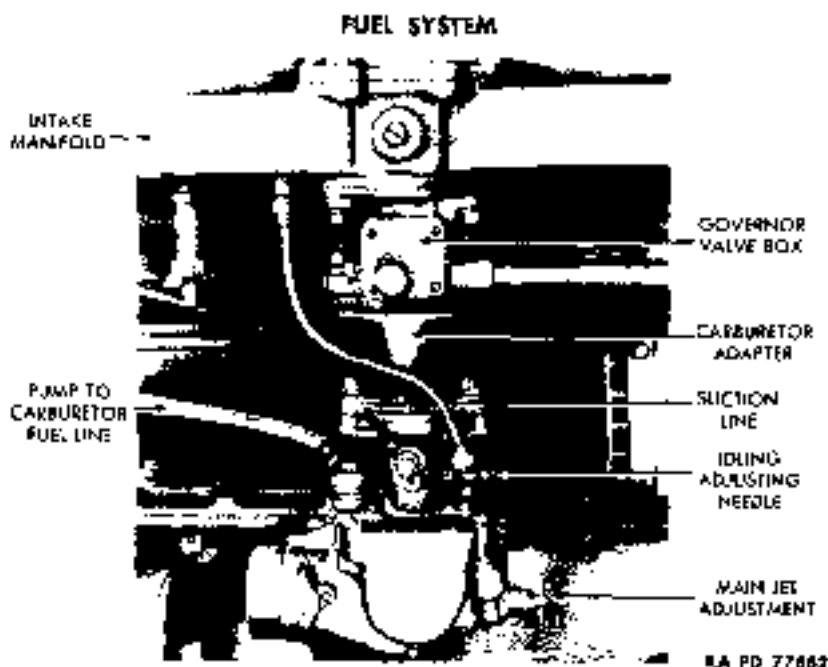
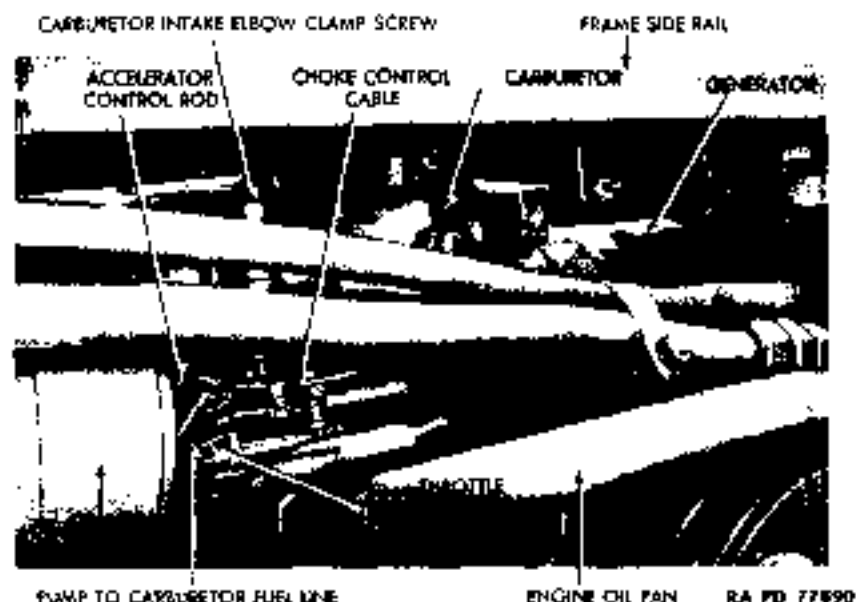

Figure 29 - Carburetor
Figure 30 - Carburetor Connections
(1) DESCRIPTION (fig. 29). The carburetor is located on right-hand side of engine between engine and frame. It can be reached from under the truck or through opening obtained by removing splash shield from under right front fender. It is the updraft, single-venturi type. Its function is to supply the proper mixture of fuel and air to the combustion chambers through the intake manifold.
(2) TABULATED DATA.
(3) **ADJUST IDLING MIXTURE** (fig. 29). Adjust throttle stop screw (step (2) above). Leave splash shield off and engine running. Turn in idling adjusting needle near top of carburetor until engine slows. Back out needle until engine attains maximum speed for throttle setting. Set throttle stop screw so that engine idles at 350 revolutions per minute. Stop engine, and install splash shield unless further carburetor adjustment is to be made.
(4) **ADJUST INTERMEDIATE AND HIGH SPEED MIXTURES** (fig. 29). Start engine, and set throttle so that tachometer registers 550 revolutions per minute. Remove splash shield from under right-hand front fender. Wait until intake manifold is at least warm to the hand, then turn main jet adjustment on under side of carburetor in (clockwise) until engine slows down. Open adjustment (turn counterclockwise) until engine slows down. Turn adjustment to a position halfway between these two extremes. Stop engine, and install splash shield.
(1) **DISCONNECT CONTROLS FROM CARBURETOR** (fig. 30). Remove splash shield from under right-hand front fender. Disconnect choke control cable, throttle control cable, and accelerator control rod from carburetor.
(2) **DISCONNECT AIR CLEANER FROM CARBURETOR** (fig. 30). From under truck, loosen carburetor intake elbow clamp screw nut. Disengage elbow from carburetor.
(3) **DISCONNECT LINES FROM CARBURETOR** (fig. 30). Working through splash shield opening, disconnect pump to carburetor fuel line from its fitting on carburetor. Disconnect carburetor to manifold suction line (fig. 29) from its fitting on carburetor.
(4) **DETACH CARBURETOR** (fig. 29). Working through splash shield opening, remove the two cap screws and lock washers which attach carburetor to carburetor adapter. Lift carburetor and gasket from adapter.
(1) **ATTACH CARBURETOR** (fig. 29). Place gasket and carburetor in position on carburetor adapter, and install the two lock washers and cap screws which hold carburetor to adapter.
(2) **CONNECT LINES TO CARBURETOR** (figs. 29 and 30). Connect
(3) **CONNECT CONTROLS TO CARBURETOR** (fig. 30). Push in choke control on dash, open carburetor air shutter or choke valve, and attach choke control cable to air shutter lever. Attach throttle control cable to carburetor throttle lever. Be sure throttle is closed when throttle control on dash is in. Connect accelerator control rod to throttle lever.
(4) **CONNECT AIR CLEANER** (fig. 30). Position carburetor intake elbow on rear of carburetor, and tighten intake elbow clamp screw nut.